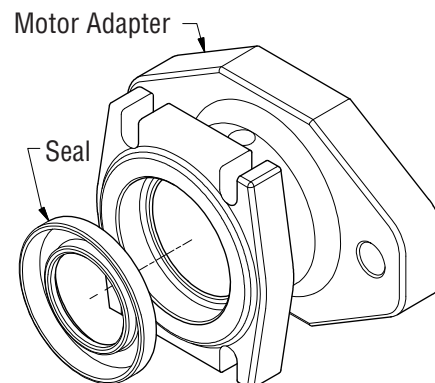

Figure 5-19, Motor Adapter Seal
11. The seal in the motor adapter can now be replaced. (Figure 5-19)